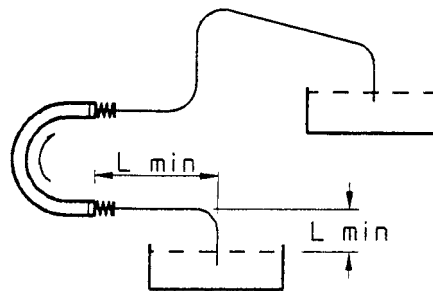

Figure 2.3 - Optimum Layout for Fluids
- Minimum suction distance – Lay the delivery pipe sloping towards the outlet. (See Figure 2.3.)